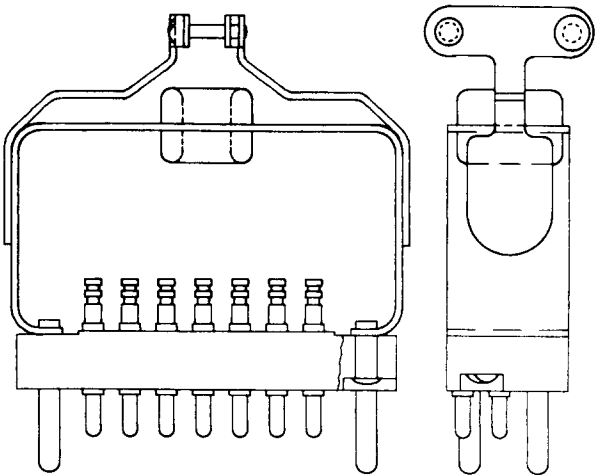

Fig. 14—KS-16322 Connector
2.10 KS-16322: The KS-16322 male connector (Fig. 14) consists of a KS-14671 connector having a cable clamp mounted above the terminal wiring ends. The connector consists of a molded, rectangular block, equipped with 21 gold-plated brass terminals. The KS-16322 connector is used on a test cable for the test frame of the A1 Digital Data Signaling System and mates with the KS-16323 connector.